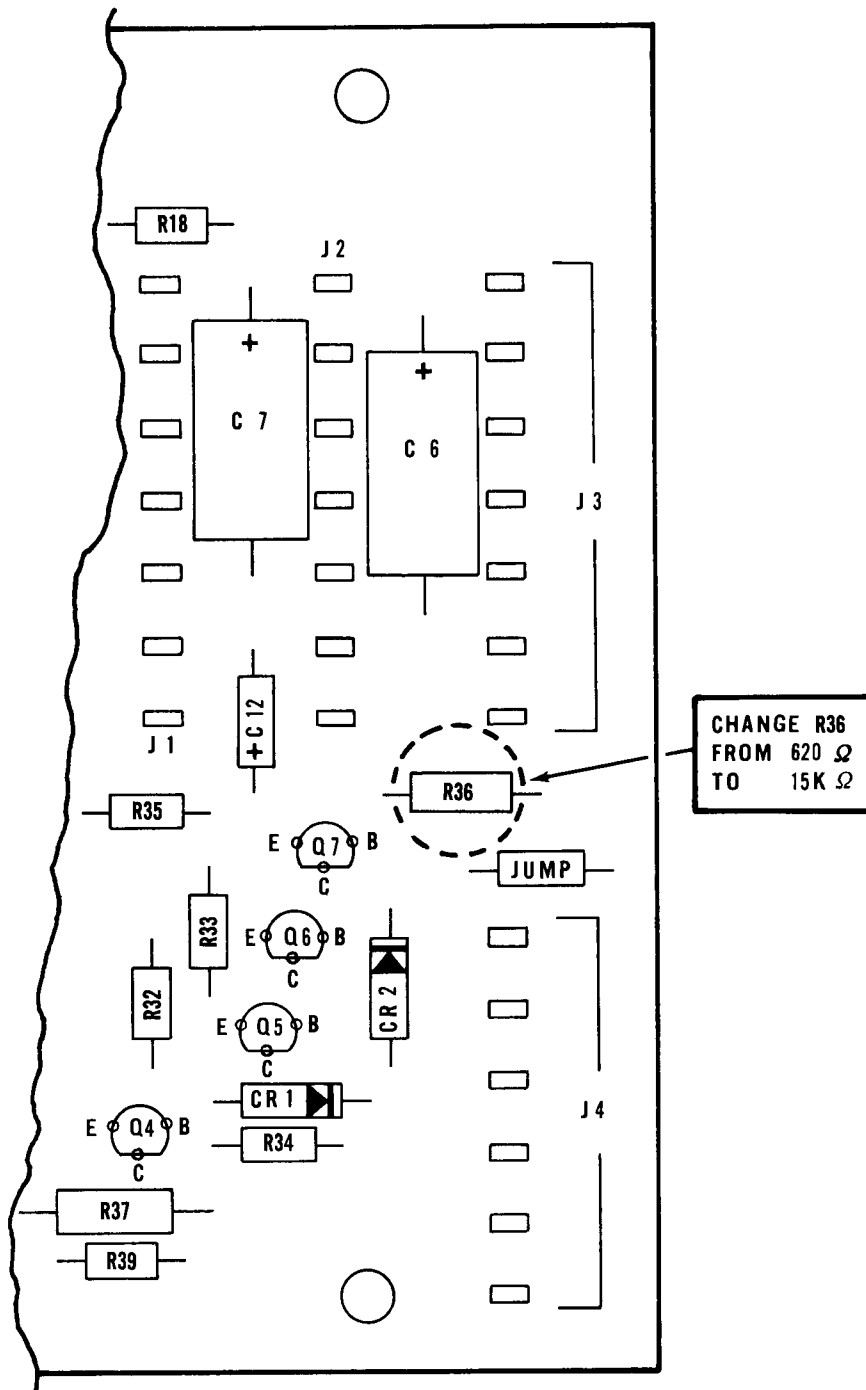

Figure 3
Step 3. Locate R36 as it is shown in Figure 3 and remove it from the board, then replace it with a 15K Ω resistor.